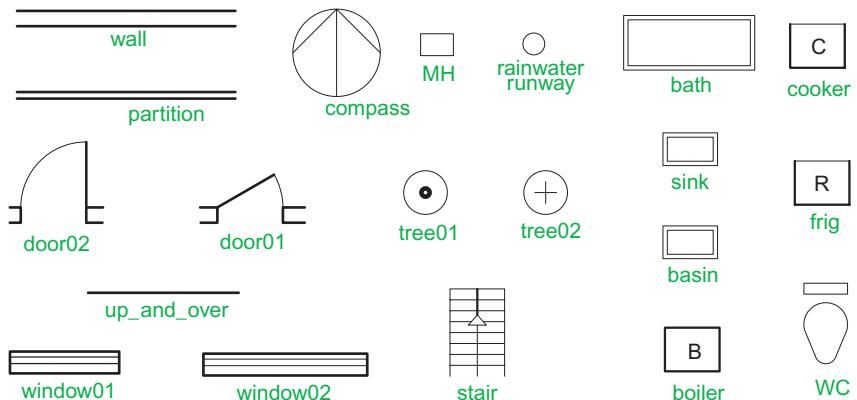
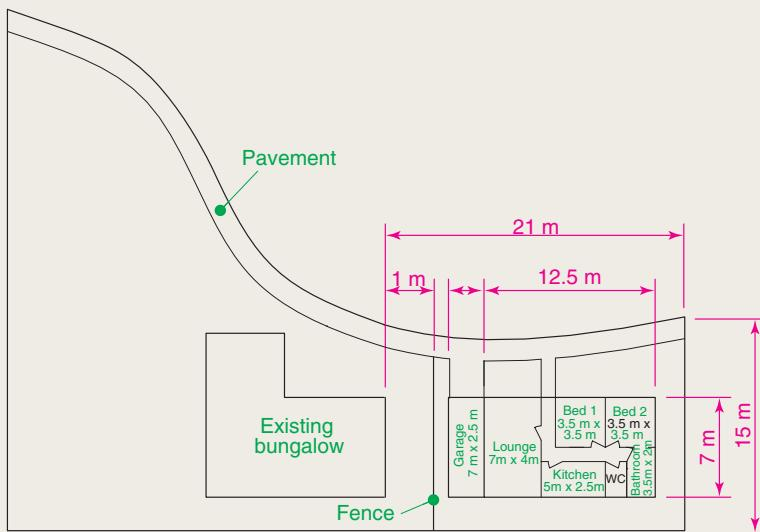
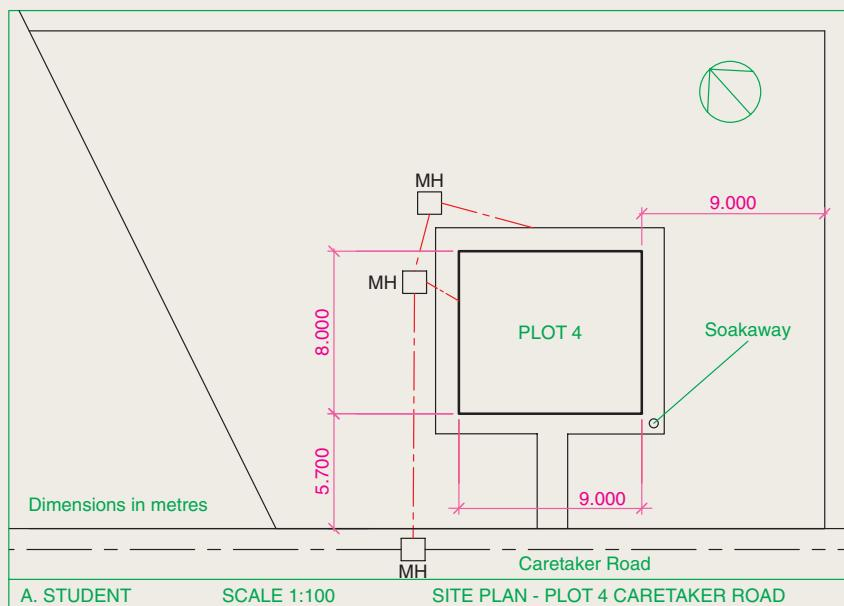
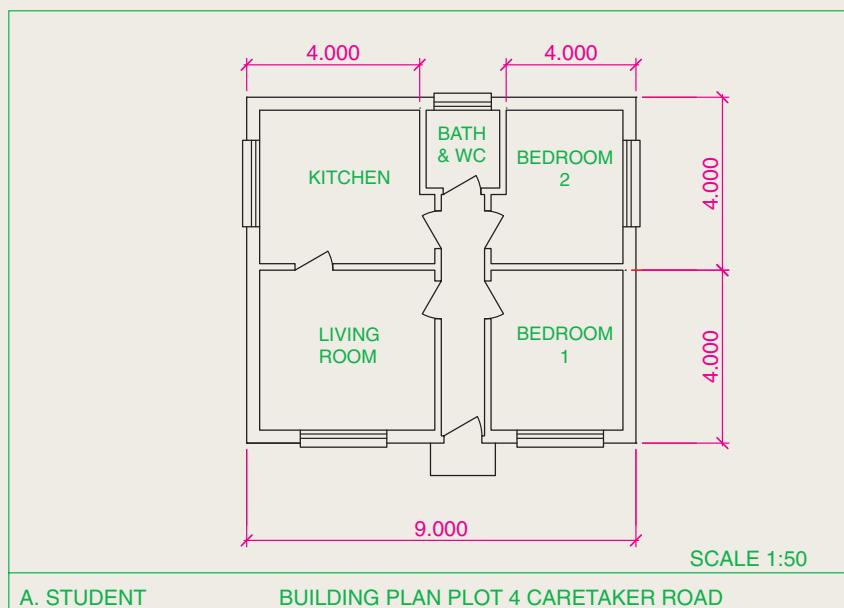

Fig. 16.8 A small library of building symbols
Fig. 16.28 Exercise 1
Fig. 16.30 Exercise 3 – site plan
Fig. 16.31 Exercise 4 – a building plan
When constructing floor layout drawings it is advisable to build up a library of block drawings of symbols representing features such as doors, windows etc. These can then be inserted into layouts from the DesignCenter. A suggested small library of such block symbols is shown in Fig. 16.8.
- Fig. 16.28 is a site plan drawn to a scale of 1:200 showing a bungalow to be built in the garden of an existing bungalow. Construct the library of symbols shown in Fig. 16.8 on page 328 and by inserting the symbols from the DesignCenter construct a scale 1:50 drawing of the floor layout plan of the proposed bungalow.
3. Fig. 16.30 shows a scale 1:100 site plan for the proposed bungalow 4 Caretaker Road. Construct the floor layout for the proposed house shown in the drawing Fig. 16.28.
4. Fig. 16.31 shows a building plan of the house in the site plan (Fig. 16.30). Construct a 3D model view of the house making an assumption as to the roofing and the heights connected with your model.